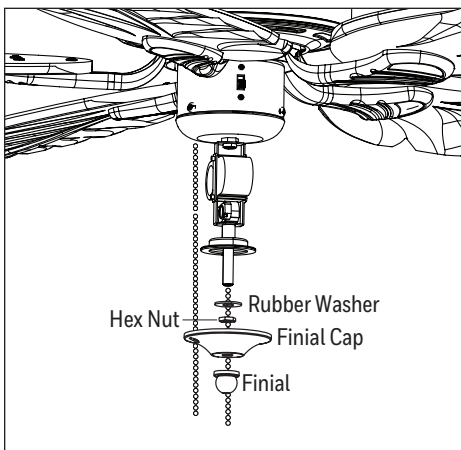

Figure 5.7
- Remove the finial, finial cap, hex nut and washer from the threaded rod on the light kit. Then feed the pull chain coming from the switch housing down through the preassembled grommet in the lower part of the light kit (Figure 5.7).